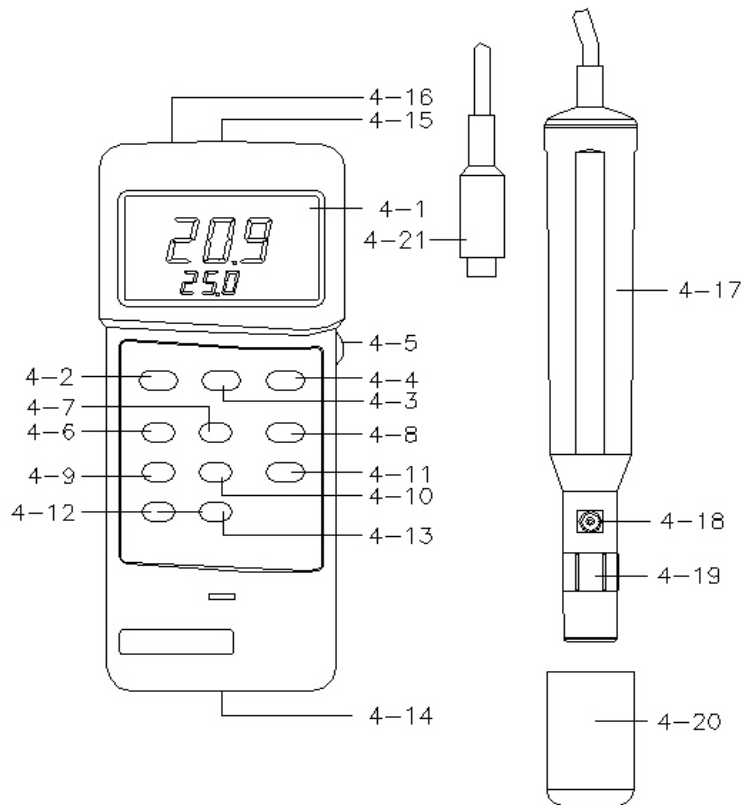

Fig. 1
- 1) Disconnect the " OXYGEN PROBE plug " (4-21, Fig. 1) from the " Probe input socket " (4-15, Fig. 1).
- 2) Power on the instrument by pushing the " Power Off/On button " (4-2, Fig. 1).
- 3) Slide the " O2/DO selector " (4-11, Fig. 1) to the " O2 " position.
Push the " Zero button " (4-9, Fig. 1) and the display will show zero value.
- 4) Connect the " Oxygen probe plug " (4-21, Fig. 1) with the " Probe input socket " (4-15, Fig. 1). Wait for approx. 5 minutes at least until the display reading values become stable & no fluctuation. Push the " O2 Cal. button " (4-12, Fig. 1) and the display will show the values exactly same as 20.9 or 20.8. (As the oxygen in air is 20.9 % typically, so use the environment air O2 value for quick & precise calibration).
- 2) Slide the " O2/DO selector " (4-11, Fig. 1) to the " DO " position.
- a. Push the " % Salt button " (4-10, Fig. 1) first, and the display will show. :
- b. Push the " Factor Adj. button " (4-8, Fig. 1) once will add " 1 % " to the original salt % value until the adjusting reading reach the desired salt values. Then push the " % Salt button " (4-10, Fig. 1) again to finish the adjusting procedures. At this moment the new % salt values will be executed.
- a. Push the " MT (Height) button " (5-13, Fig. 1) first, then the display will show
- b. Push the " Factor Adj. button " (4-8, Fig. 1) once will add " 100 meters " to the original height values until the adjusting reading reach the desired height values (meters). Then push the " MT (Height) button " (4-13, Fig. 1) again to finish the adjusting procedures. At this moment the new height values (display unit is the " meters ") will be executed.
- 2) Slide the " O₂/DO selector " (4-11, Fig. 1) to the " O₂ " position.
* Push the " °C/°F button " (4-4, Fig. 1) once to select measuring unit in °C or °F.
During the measurement, Push the " Data Hold button " (4-3, Fig. 1) will hold the display values & LCD will show the " D.H " marker.
* The DATA RECORD function displays the maximum, minimum and average readings. To start the DATA RECORD function, press the " Memory Record button " (4-6, Fig. 1) once. " REC " symbol will appear on the LCD display.
- (a) Push the " Memory CALL button " (4-7, Fig. 1) once, the " Max " symbol along with the maximum value will appear on the display.
To de-activate this feature, select the memory record function during measurement by pressing the " RECORD " button (4-6, Fig. 1).
This is achieved by controlling the " LCD Contrast Adjust " pot (4-5, Fig. 1).
The instrument features an RS232 output via 3.5 mm Terminal (4-16, Fig. 1). The connector output is a 16 digit data stream which can be utilized to the user's specific application.